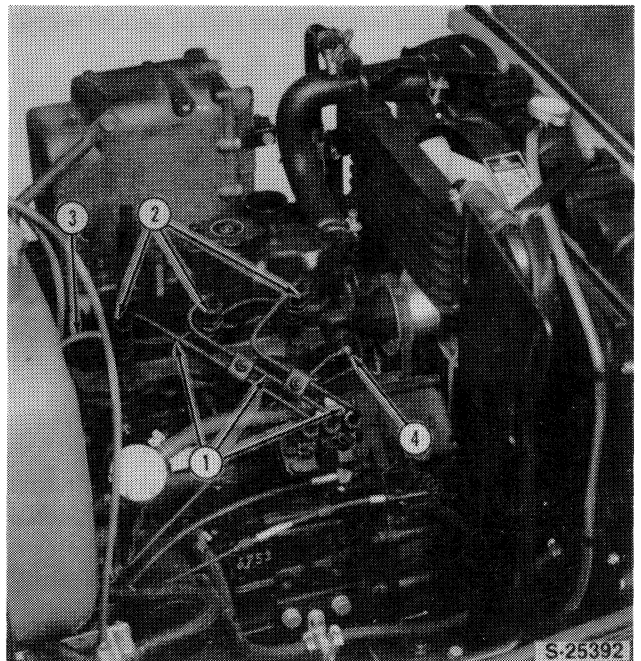

Figure 5
9. Disconnect the temperature and oil sender wires, Figure 5.
4. Remove the injector lines (1) leak-off tubes (3) and injectors (2), Figure 5.
5. Disconnect the vent tubes from the rocker cover, Figure 5.